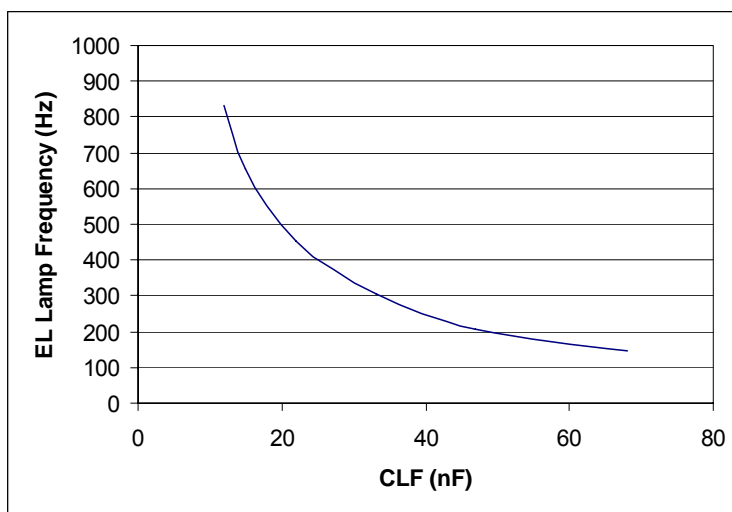

Figure 3 – Typical EL Output Frequency vs. CLF Capacitor (Vbat=Vcc=3.3V)
The frequency of the AC voltage output to the EL lamp is determined by the low frequency (LF) oscillator. The frequency of LF oscillation is determined by the value of the CLF capacitor and the internal resistors. The duty cycle of the LF oscillator is fixed at approximately 50%. Figure 3 shows the inversely proportional relationship between CLF capacitor value and the LF frequency at a given Vbat.